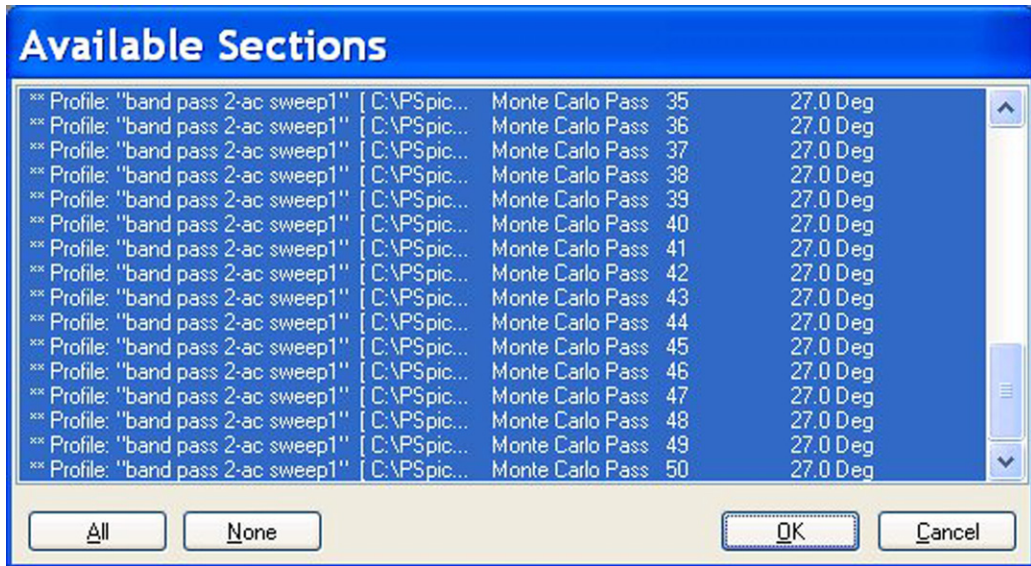

FIGURE 10.10
- When PSpice launches, a list of available runs is shown (Figure 10.10). Select **All** and click on OK.